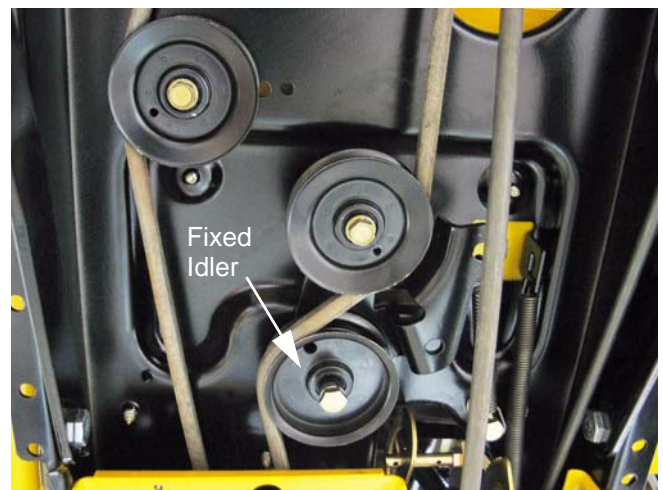

Figure 30.12
- 30.12. The fixed idler pulley can be removed from later models using a single 1/2" wrench. The bolt that holds the fixed idler to earlier models threads into a 3/8" nut above the tractor frame. The bolt can be removed from the nut using a pair of 9/16" wrenches without removing the fenders. See Figure 30.12.